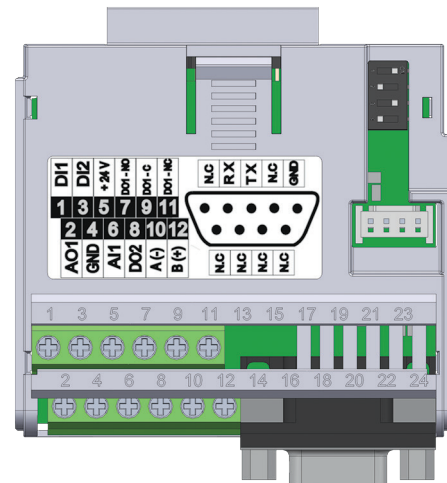

Figure 19.2: Plug-in module CFW500-CRS232
The CFW500-CRS232 plug-in module has Serial (1) interface through RS-485 port at terminals 10 (A-) and 12 (B+), as well as the Serial (2) interface through RS-232 port at standard connector DB9, see Figure 19.2 on page 19-1.